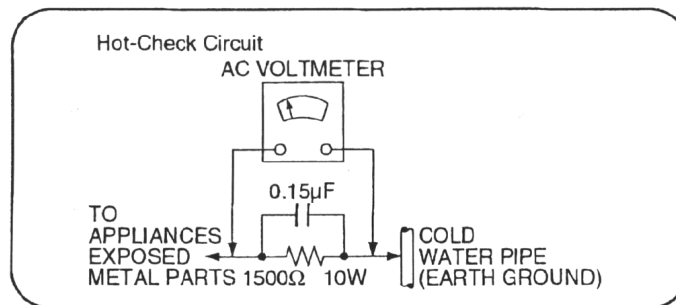

Figure. 1
2.1.2. LEAKAGE CURRENT HOT CHECK (See Figure 1.)
2. Connect a $1.5k\Omega$, 10 watts resistor, in parallel with a $0.15\mu F$ capacitors, between each exposed metallic part on the set and a good earth ground such as a water pipe, as shown in Figure 1.